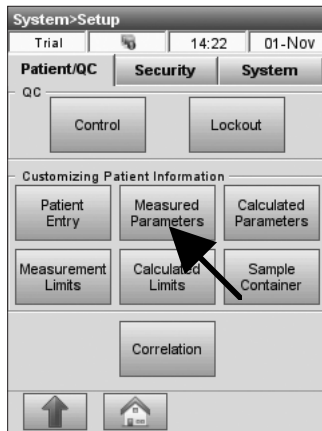

Fig. 3-20 Measured Parameters
- On the **<Patient/QC>** tab, press **<Measured Parameters>** (Fig. 3-20).